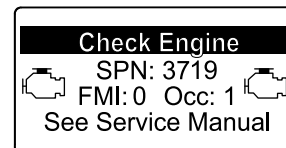

Figure 42
- If a recovery regeneration is needed, the InfoCenter displays engine warning SPN 3719, FMI 16 (Figure 42) and the engine computer derates engine power to 85%.